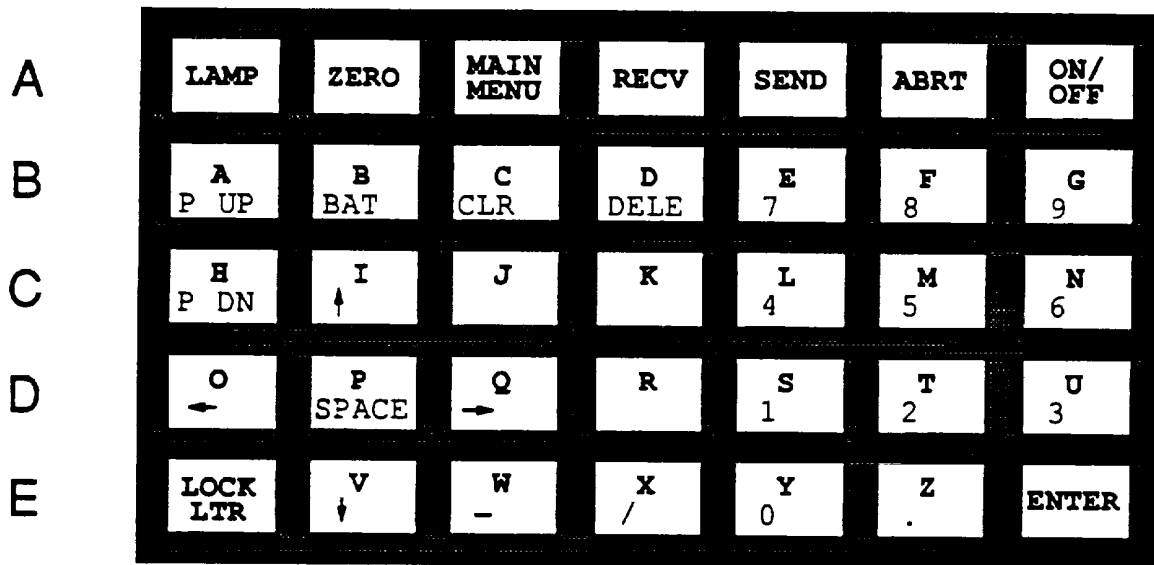

Figure 2-2. ANCD Keys
- a. Controls. (See figure 2-2.)